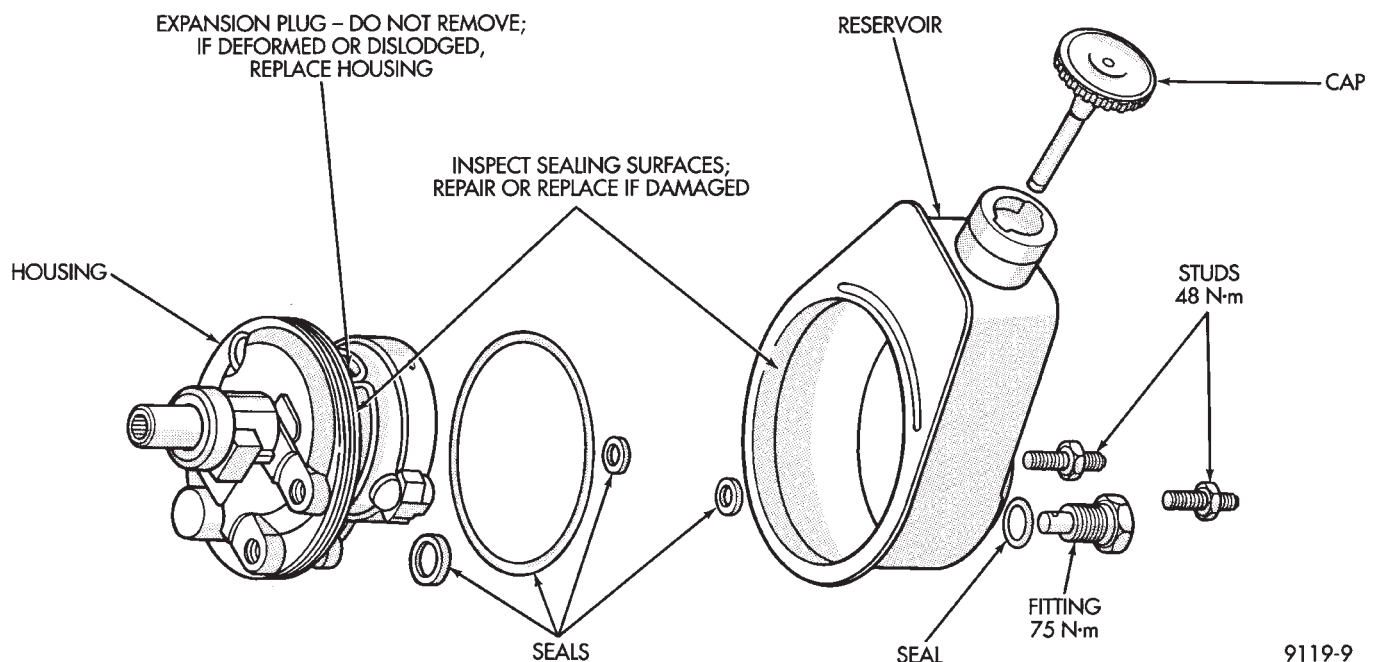

Fig. 1 Pump and Reservoir
(2) Remove mounting studs and pressure fitting (Fig. 1). Rock reservoir by hand or use a soft face mallet to remove.
(3) Remove O-ring seals from housing and reservoir (Fig. 1).
(4) Remove flow control valve and spring from housing.
- (2) Install new O-ring seals in housing (Fig. 1). Install the pump housing assembly into the fluid reservoir. Tighten mounting studs to 48 N•m (35 ft. lbs.) torque.
- (3) Install fitting in flow control valve bore. Tighten the fitting to 75 N•m (55 ft. lbs.) torque.